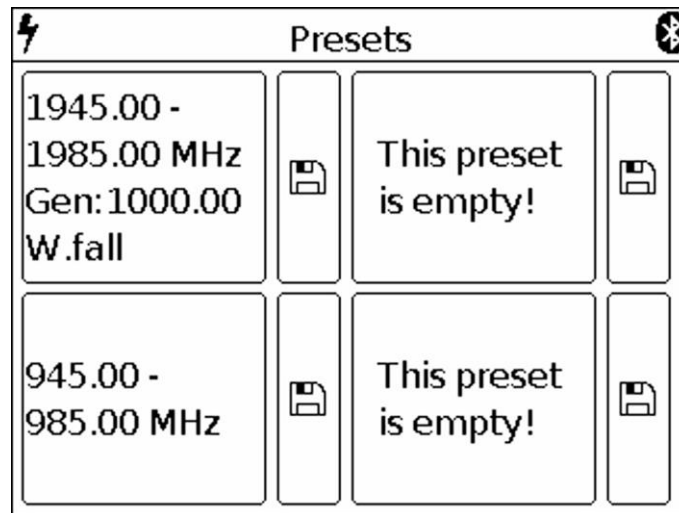

Figure 26 – Custom settings menu
7.10.1. To save the spectrum scan settings (frequency range, attenuator value), settings for equipment testing (frequency and power of the internal signal generator), etc., enter the main menu by pressing the **«MENU»** button (14) (Figure 6) and select subsection **Presets**. A menu of custom settings will appear on the screen, as in figure 26.